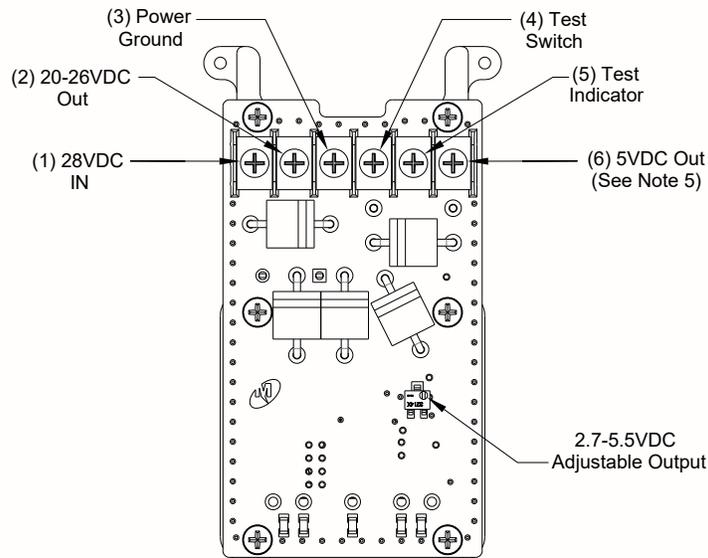

Figure 3.5 Installation Wiring Diagram
- i. Prepare aircraft wiring with mating connector in accordance with Installation Wiring Diagram Figure 3.5
For the TS835-5 model, the Auxiliary Power Output is available and typically used for lighting of required equipment during an emergency. The output is adjustable from 3.0V to 5.5V and provides up to 5A of current. While the auxiliary power is available during both normal and emergency operation, an equivalent installation to that shown in Figure 3.5 is recommended such that it is only connected to the required load when primary aircraft power is lost.